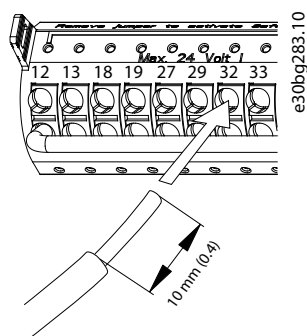

Figure 5.13 Connecting Solid Control Wires
- For a solid wire, push the bare wire into the contact. See *Figure 5.13*.